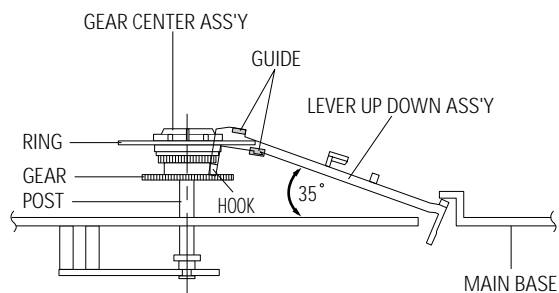

Fig. 5-30 Lever Up Down Ass'y Removal
- 1) Insert the Lever Up Down Ass'y ❶ in the rectangular holes on Main Base as shown in Fig 5-30.
- 2) Lift the Lever Up Down Ass'y ❶ about 35°.
(Refer to Fig 5-30)